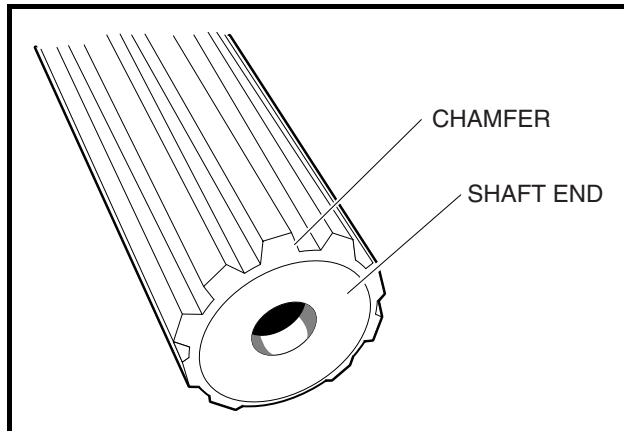

Figure 26-15 Clean Chamfer and Input Shaft End
- 2.6. Check the chamfer and end of the input shaft to ensure these areas are completely clean of grease as shown (**Figure 26-15, Page 26-13**).